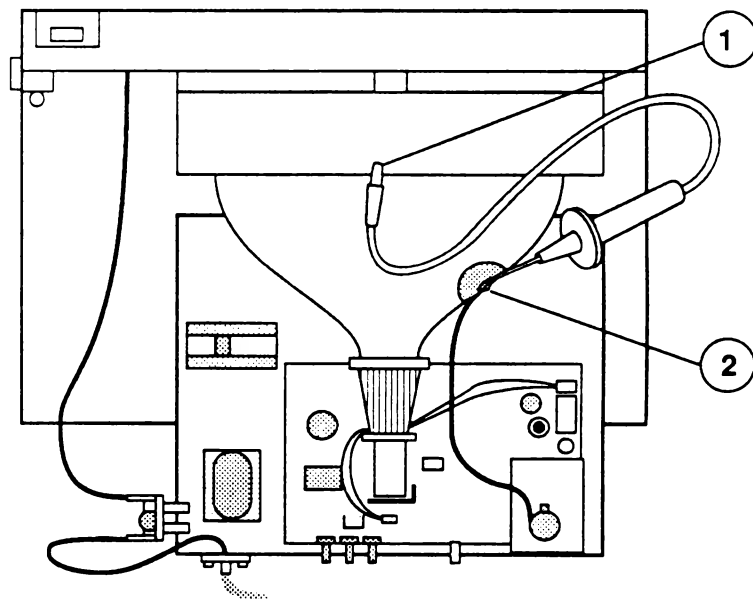

**FIGURE 3**
4. Attach the clip of the CRT discharge tool to any metal part of the chassis (Figure 3, #1).
6. Hold the CRT discharge tool to the tube surface, and insert its probe under the anode cap (Figure 3, #2) until it touches the anode ring.